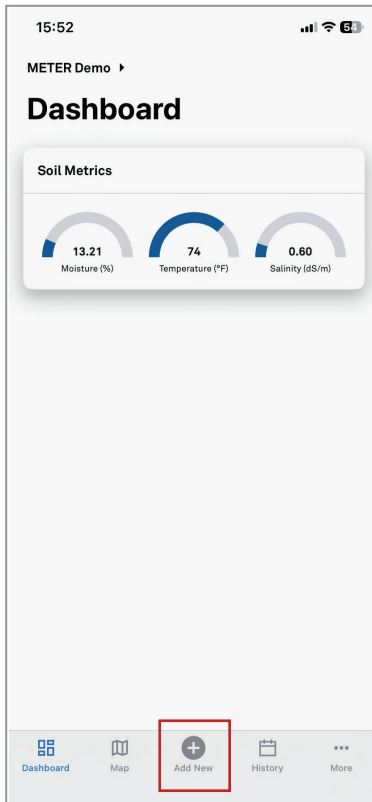

Figure 3 Add New on SOLYX GO app dashboard
1. Open the SOLYX GO app and select **Add New** from the bottom navigation bar (Figure 3).